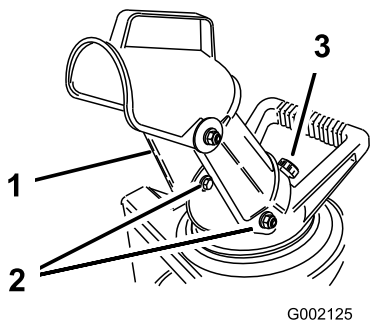

Figure 4
1. Position the holes in the sides of the discharge chute over the bolts ends on the sides of the chute handle. (Figure 4).